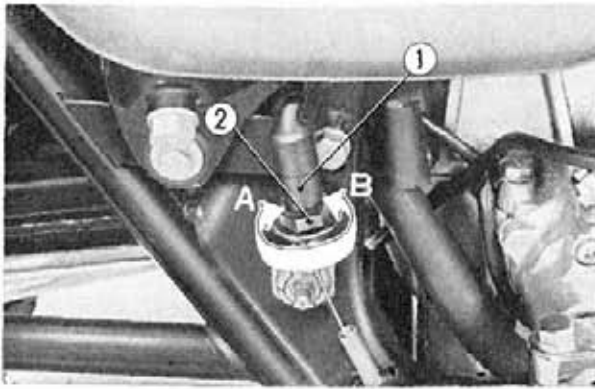

Fig. 19-22 ① Stop light switch
light switch is late in switching on the stop light, screw in ② the switch lock nut and if the stop light comes on too early, screw out ② the switch lock nut. (Fig. 19-22)
- (3) Check operation of turn signal lights and repair when it is necessary.
(4) Check horn, speedometer and tachometer for function and replace them when it is necessary